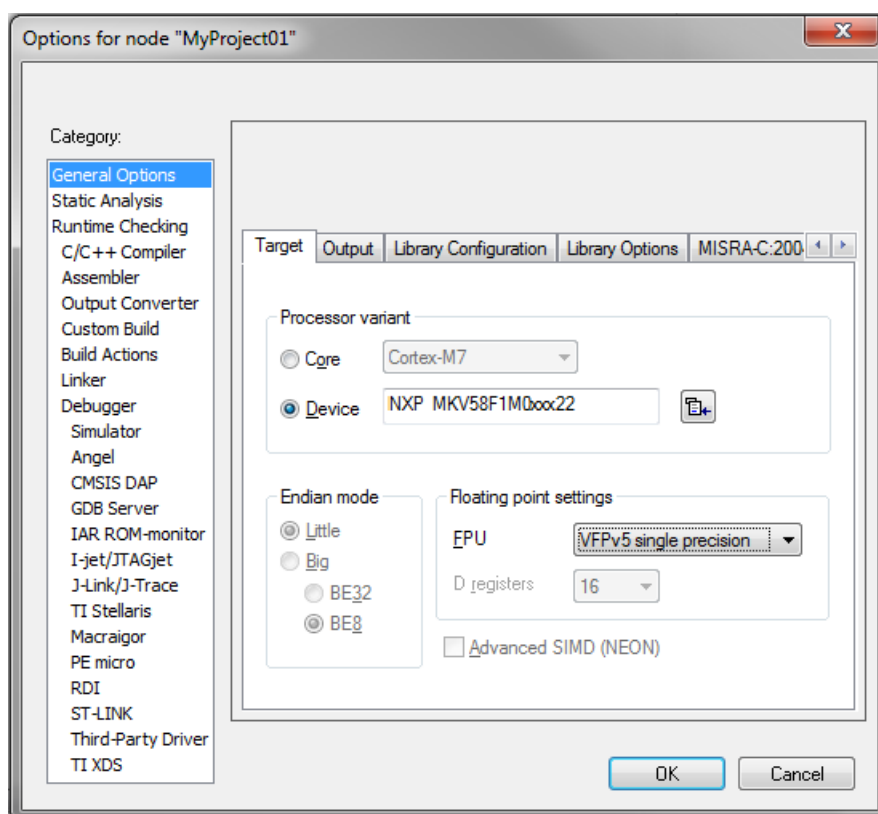

Figure 1-28. Options dialog
6. In the Target tab, select the Device option, and click the button next to the dialog to select the MCU. In this example, select NXP > KV5x > NXP MKV58F1M0xxx22. Select VFPv5 single precision in the FPU option. Click OK. See Figure 1-28.